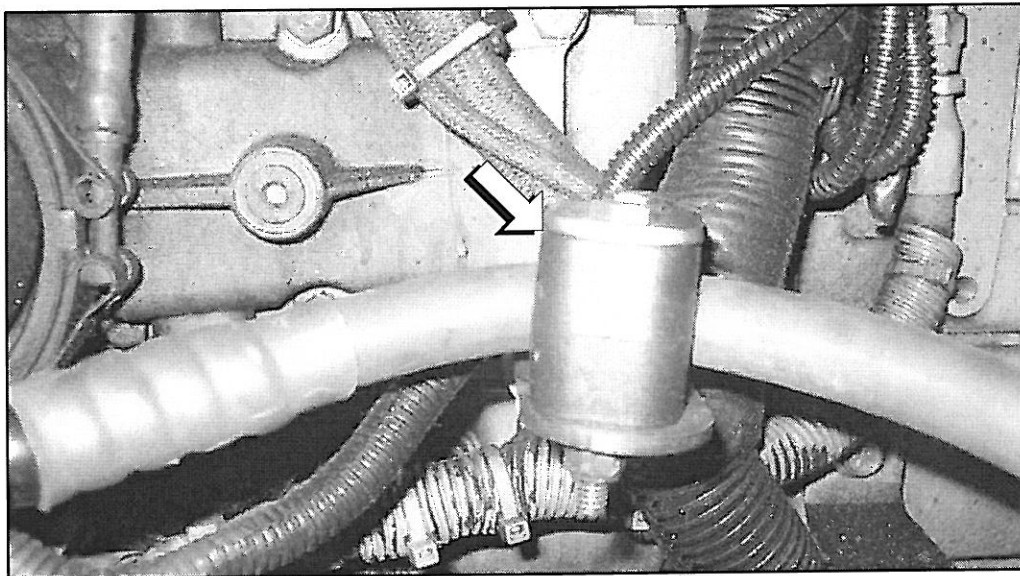
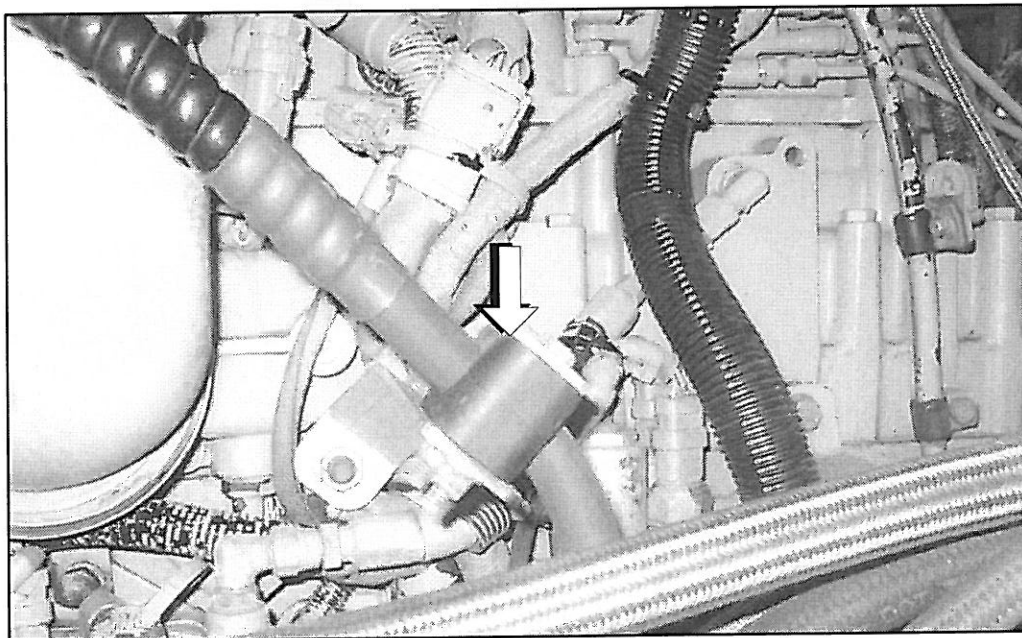

Figure 3. Pre-2007 C13 engine configuration.
Figure 4. 2007 EPA C13 engine configuration.
6. Follow the routing of the alternator cable along the curbside of the C13 engine. Release alternator cable from existing split clamps (refer to Figure 3 or Figure 4). Remove and discard the alternator cable.
- Remove the existing split clamps with new split clamp, p/n 19-04-0419 (refer to Figure 3 or Figure 4). Use existing capscrew 19-1-376 and lock nut 19-3-2 to secure alternator cable. Torque to 9 ft. lbs.